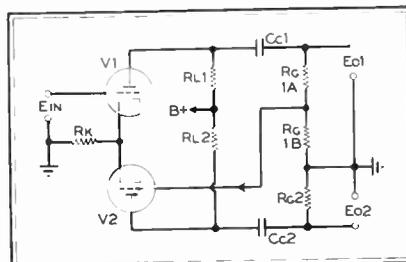

Fig. 3. This circuit, often used, provides high gain
**Method 3:** The circuit of Fig. 3 can be used where maximum gain is required.  $V_1$  is a
This circuit is not generally recommended. It has all the disadvantages of Fig. 3 except that no additional tubes are required. However, it provides no gain. In addition, it imposes a load on the output transformer that is seriously detrimental to the performance of the amplifier.